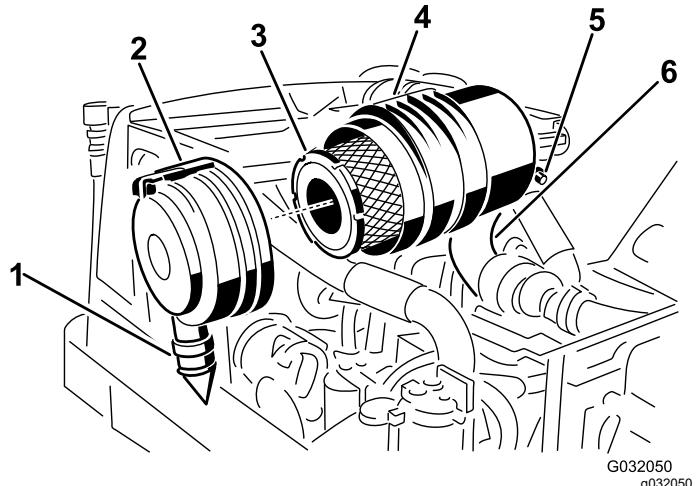

Figure 46
3. Replace the primary filter (Figure 46).
7. Install the cover, orienting the rubber outlet valve in a downward position between the 5 o'clock to 7 o'clock positions when viewed from the end, and secure the latch (Figure 46).
2. Remove the primary filter (Figure 46).